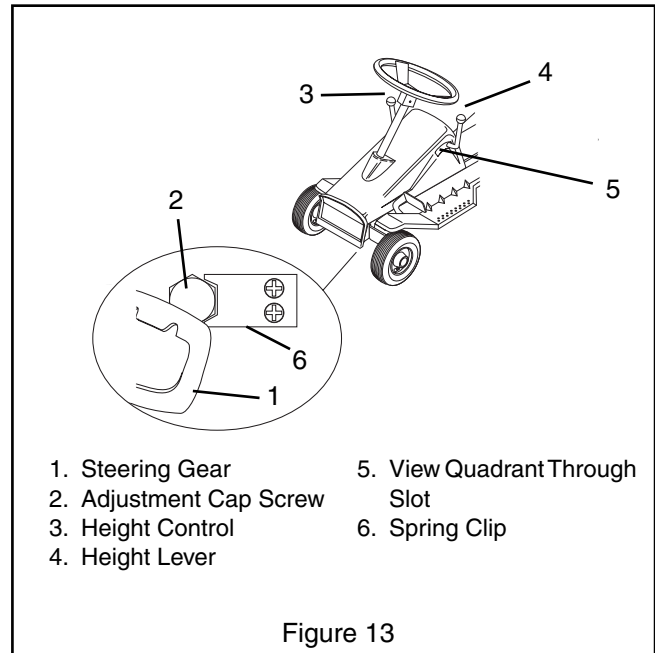

Figure 13
1. Place height control lever in midnotch position, depress spring clip and tighten yoke on front of unit with a 3/4" socket wrench (Figure 13).